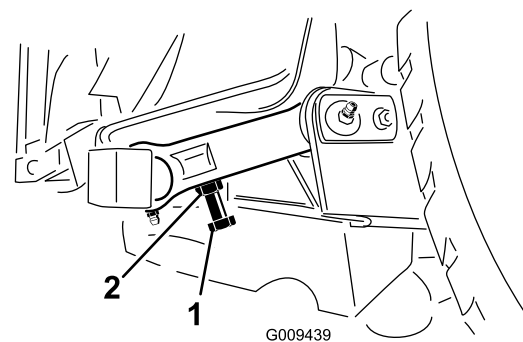

Figure 29
3. To adjust distance, locate adjuster bolt on rear pivot link of cutting unit (Figure 29). Loosen jam nut on adjuster bolt. Loosen or tighten adjuster bolts until 0.38-0.62 inch (10-16 mm) clearance is attained, then tighten jam nut.